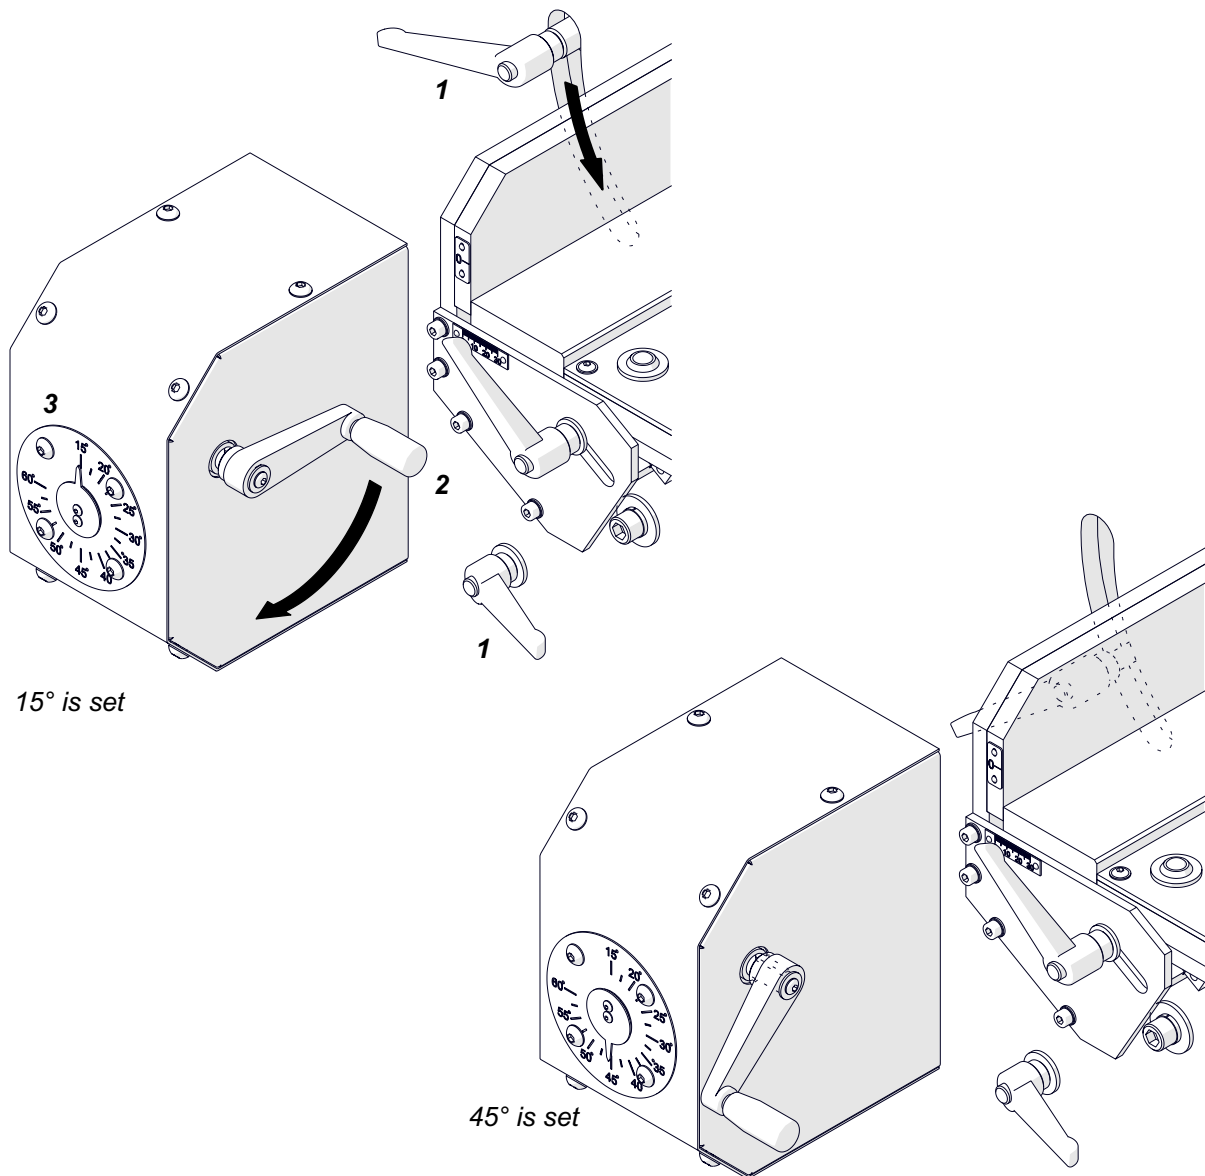

Fig. 7. Setting the bevel angle
To set the bevel angle (Fig. 7), unlock the levers (1). Then, use the crank (2) to turn the milling unit so that the scale (3) shows the required angle. Lock the levers in this position.